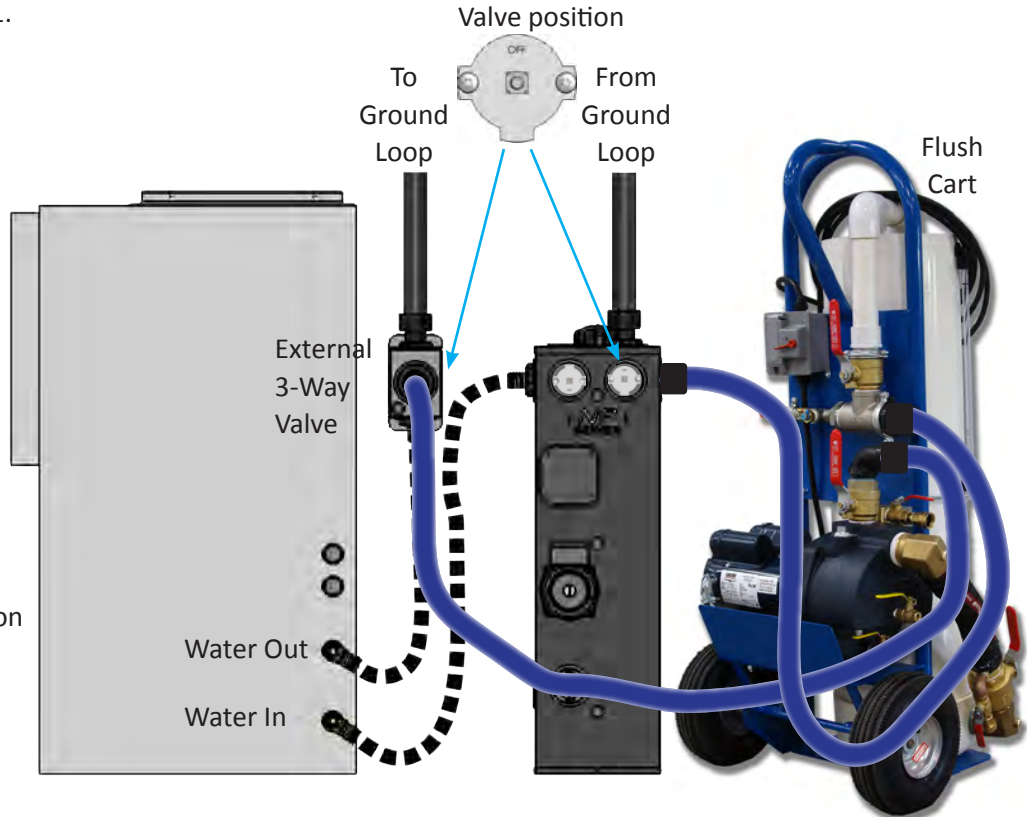

Figure 11: Valve position after ground loop has been flushed
7. Rotate valve #2 and the external 3-way valve so that OFF position is turned towards the ground loop as shown in Figure 11.